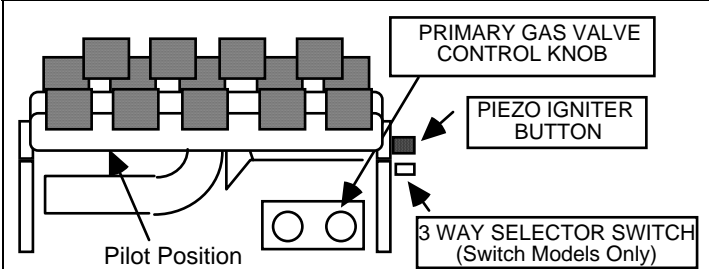

Figure 4
1. Depress and turn the **Primary Gas Valve Control Knob** (located at the base of the right rear grate leg, clockwise to the "OFF" position. See Figures 4 and 7.